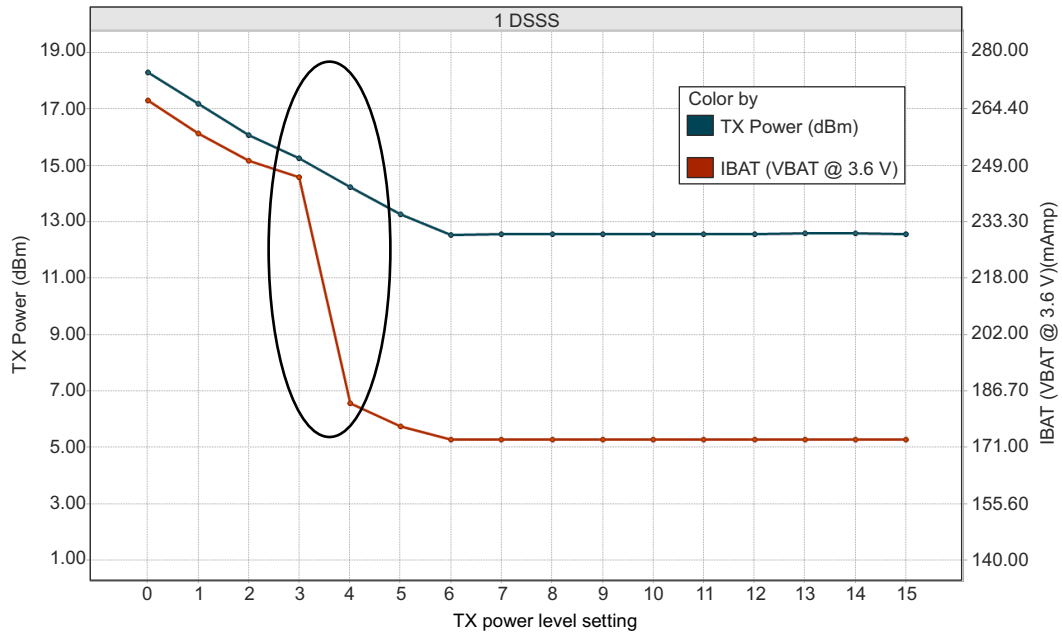

Figure 8-1. TX Power and IBAT vs TX Power Level Settings (1 DSSS)
- (1) TX power level = 0 implies maximum power (see 图 8-1, 图 8-2, and 图 8-3). TX power level = 4 implies output power backed off approximately 4 dB.
- (2) LPDS current does not include the external serial flash. The LPDS number of reported is with retention of 256KB of MCU SRAM. The CC3230x device can be configured to retain 0KB, 64KB, 128KB, 192KB, or 256KB of SRAM in LPDS. Each 64-KB block of MCU retained SRAM increases LPDS current by 4 μA .
- (3) DTIM = 1
- (4) The complete calibration can take up to 17 mJ of energy from the battery over a time of 24 ms. In default mode, calibration is performed sparingly, and typically occurs when re-enabling the NWP and when the temperature has changed by more than 20°C. There are two additional calibration modes that may be used to reduced or completely eliminate the calibration event. For further details, see CC31xx, CC32xx SimpleLink™ Wi-Fi® and IoT Network Processor Programmer's Guide.
- (5) The CC3230x system is a constant power-source system. The active current numbers scale based on the V_{BAT} voltage supplied.
- (6) Typical numbers assume a VSWR of 1.5:1.
In Figure 8-1, the area enclosed in the circle represents a significant reduction in current during transition from TX power level 3 to level 4. In the case of lower range requirements (14-dBm output power), TI recommends using TX power level 4 to reduce the current.